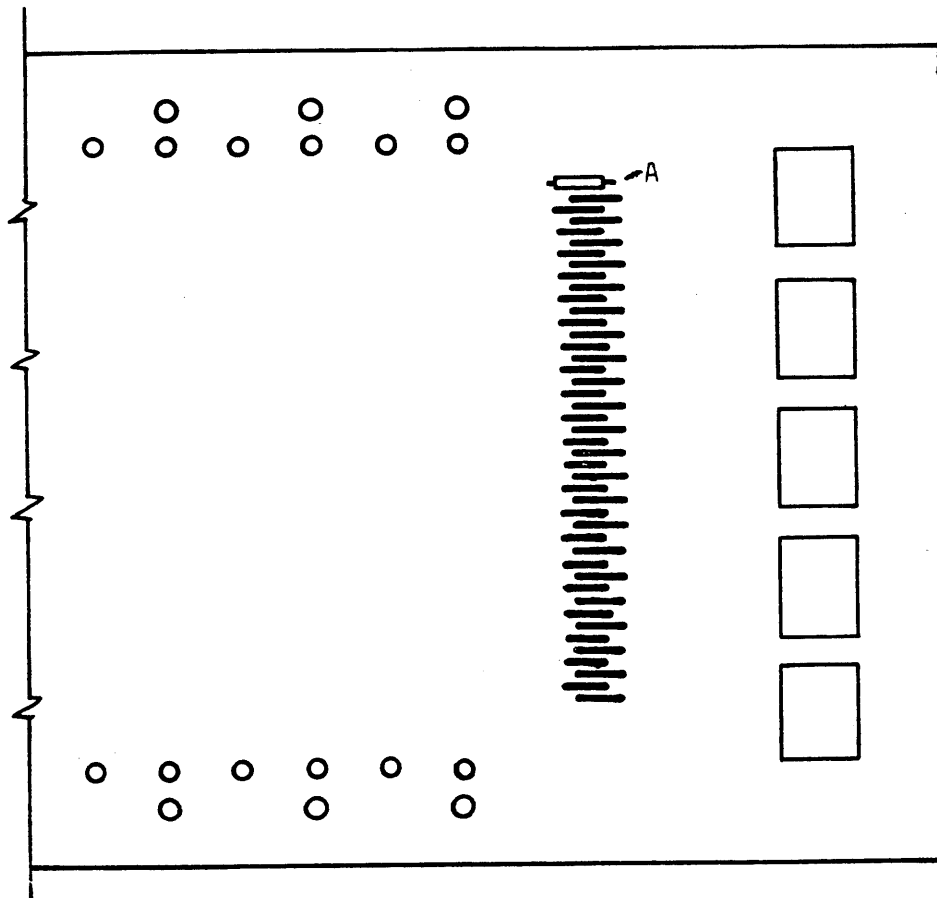

FIG. 11
- () Connect the positive meter lead to the point marked (A) in Fig. 11.